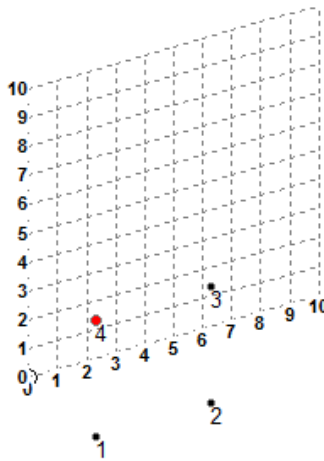

Figure 2-35 Grids moved to the new location
Step 6: In this dialog box, specify **-4** in the **Z** edit box under the **Grid Origin** area and then choose the **OK** button; the grid is moved to a new location, as shown in Figure 2-35.